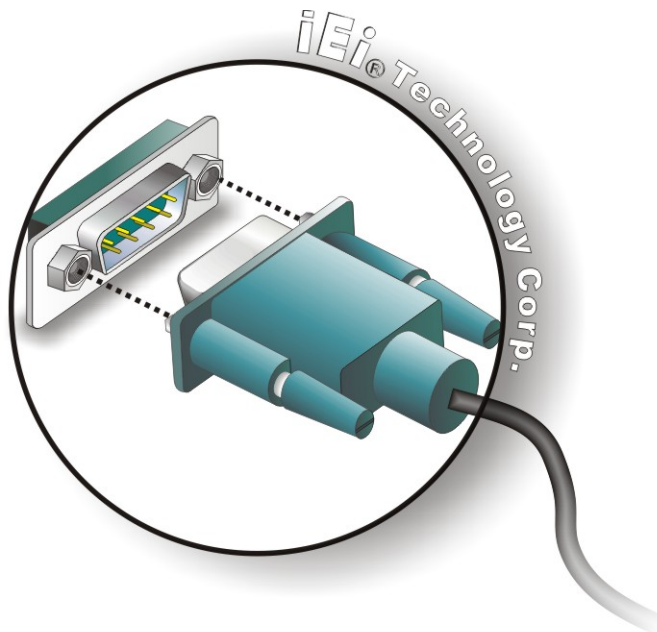

Figure 4-11: Serial Device Connector
Step 2: **Insert the serial connector.** Insert the DB-9 connector of a serial device into the DB-9 connector on the external peripheral interface. See **Figure 4-11**.